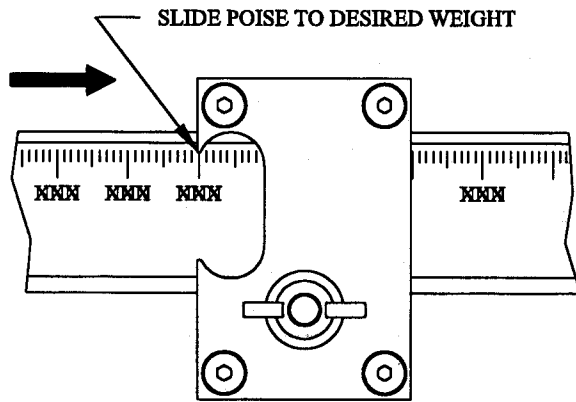
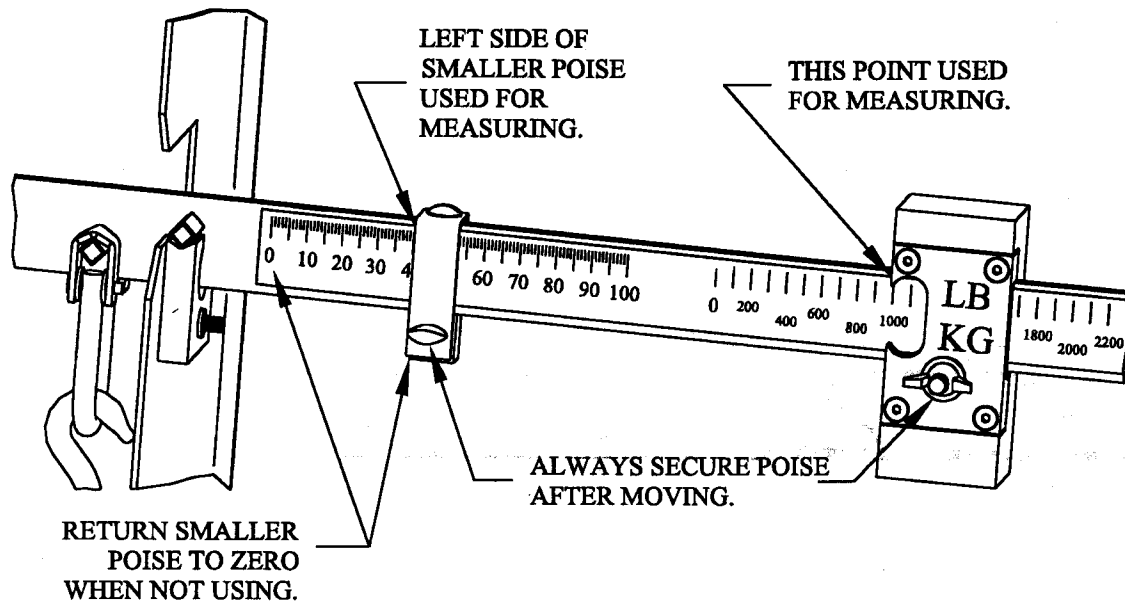

FIG. 1A
FIG. 1B
STEP 1. Set the poise on the beam to the desired amount of feed needed for the day. See Fig. 1A. The beam will swing down engaging the bottom whisker and switch. 10000# & 20000# scales have different beams. Setting the weight for a 10000# beam is shown in Fig. 1B. The 20000# beam is similar to the 10000# and is not shown.